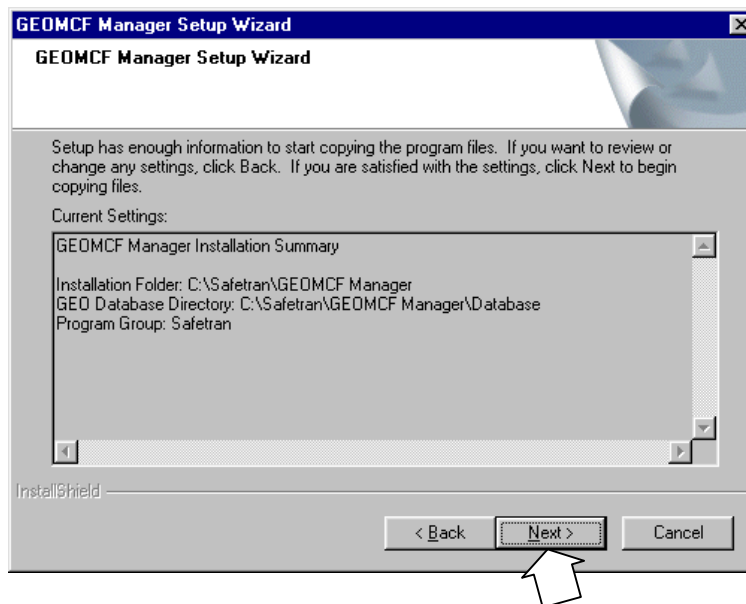

Figure 1-13
8. The “Installation Summary” window appears (figure 1-13).